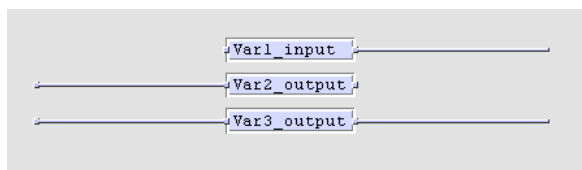

Figure 95: Direction of global variables
- The direction of the variable is determined based on the graphical representation, shown in Figure 95.